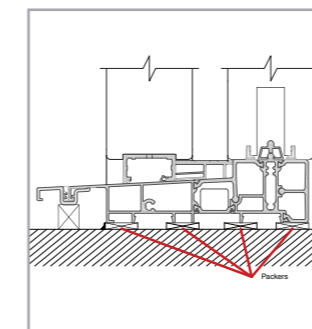

Figure 20: Packing locations to support a door cill
**Step 3** - If the door frame is fitted with an extended cill it is important to check that it is adequately supported as shown in Figure 20.